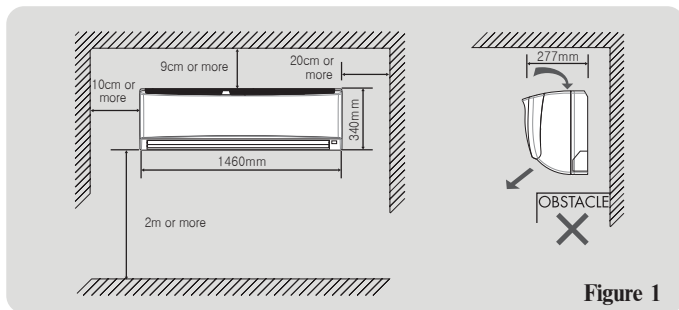

Figure 1
- Leave the space shown in Figure. 1 for servicing or removing the filter and for good air flow and for safety.
- Be sure to leave the clearance spaces shown in Figure 1.